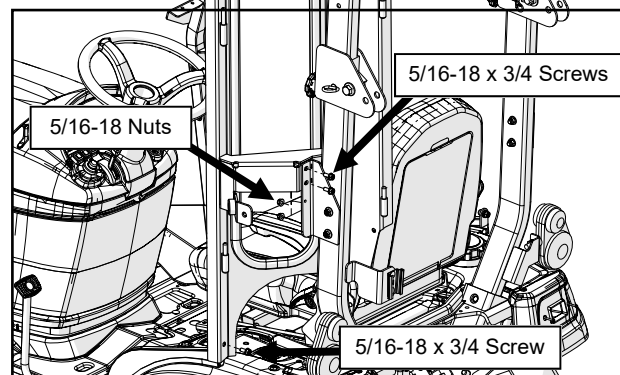

Fig. 6.1 (Install Rear Leg Assembly)
- 6.1** With assistance, hold the left rear leg assembly in place above the tractor's left rear fender and install a 5/16-18 x 3/4 bolt into the contour. The leg can then be secured to the ROPS bracket. Leave just loose enough for adjustment. See Fig. 6.1.